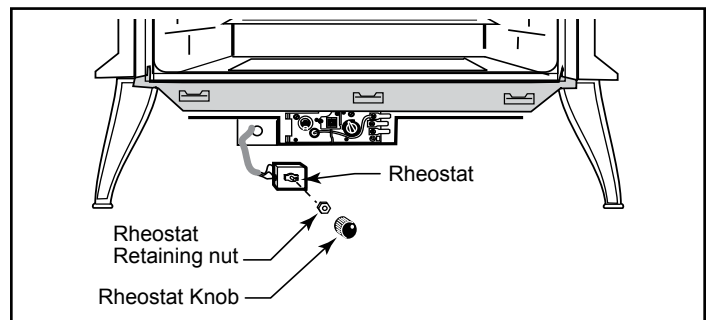

**Figure 55** - Remove the cover plate and hex nuts from the rear shroud.
1. Remove the cover plate (A) at the bottom of the rear shroud. (Figure 55)
2. Remove the hex nuts (B) from the two mounting studs located at the lower center of the rear shroud. (Figure 55)